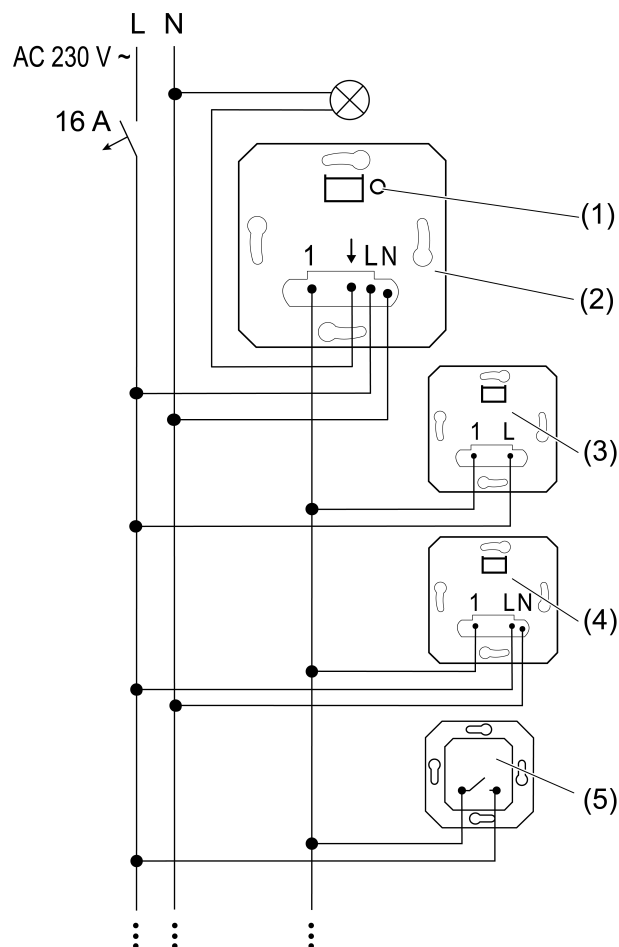
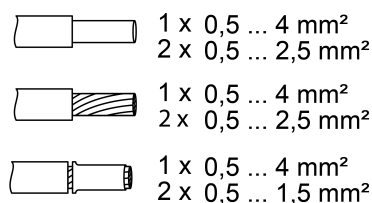

Figure 1: Connection diagram with optional extensions
Figure 2: Terminal-specific cable cross-section:
- Connect the switch insert (2) according to the connection diagram (Figure 1). Note clampable cable cross-sections (Figure 2).
- Connect the 2-wire extension (3), the 3-wire extension (4) and as an option, the push-button with NO contact (5).
- ⓘ The load can be switched by briefly pressing the **TEST** button (1).